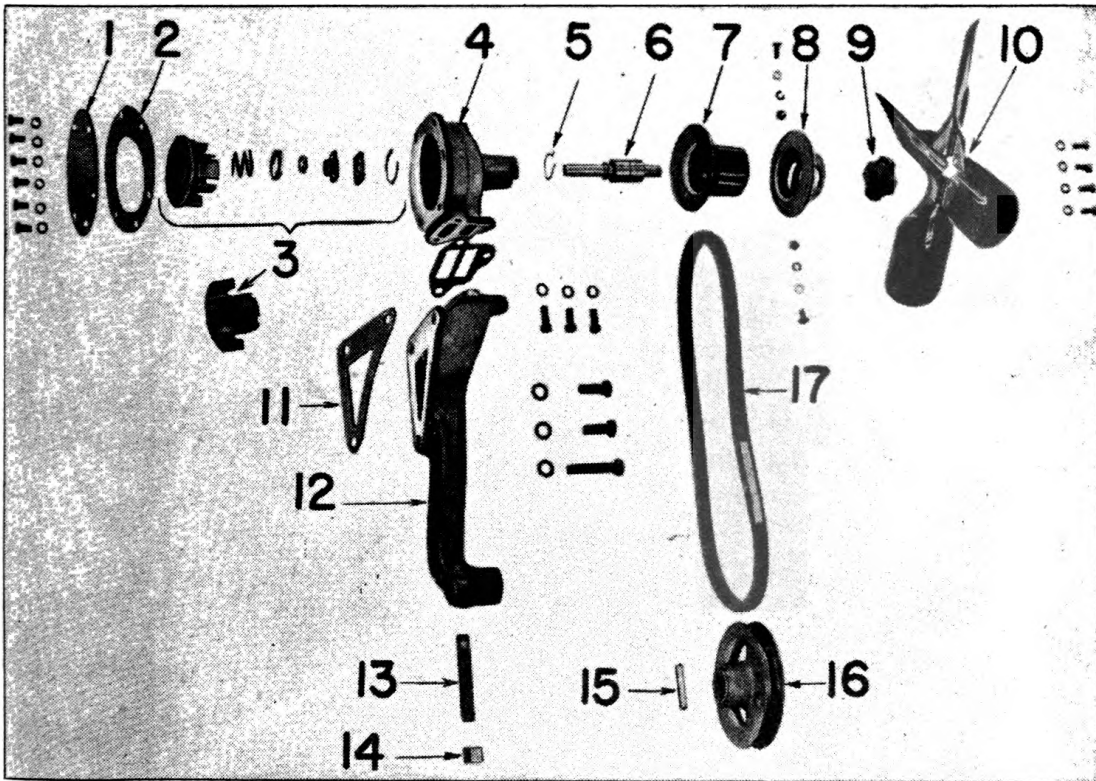

Fig. 31. Details of Water Pump
1. Remove the fan blades No. 10 Fig. 31 by taking out four cap screws that hold fan pulley hub No. 7 Fig. 31 to hub No. 9 Fig. 31 on water pump shaft.
3. Loosen the three cap screws which attach the water pump to the water connection No. 12 Fig. 31 on the front of the engine. Remove the water pump complete as shown in Fig. 10.
1. Remove back plate No. 1 Fig. 31 on water pump housing by taking out six $\frac{5}{16} \times \frac{5}{8}$ inch cap screws. Use care so that gasket No. 2 Fig. 31 is not damaged.
2. Remove impeller No. 3 Fig. 31 by using suitable puller. **Do not drive off** as this will damage end of impeller.
3. Remove snap ring No. 5 Fig. 31 on the fan blade end of bearing and **drive out** water pump bearing assembly. This should be driven away from the impeller or toward the fan end of pump.
2. If the water pump bearings No. 6 Fig. 31 are worn, a complete new water pump bearing assembly should be installed by pressing into place and re-installing the snap ring No. 5 Fig. 31.